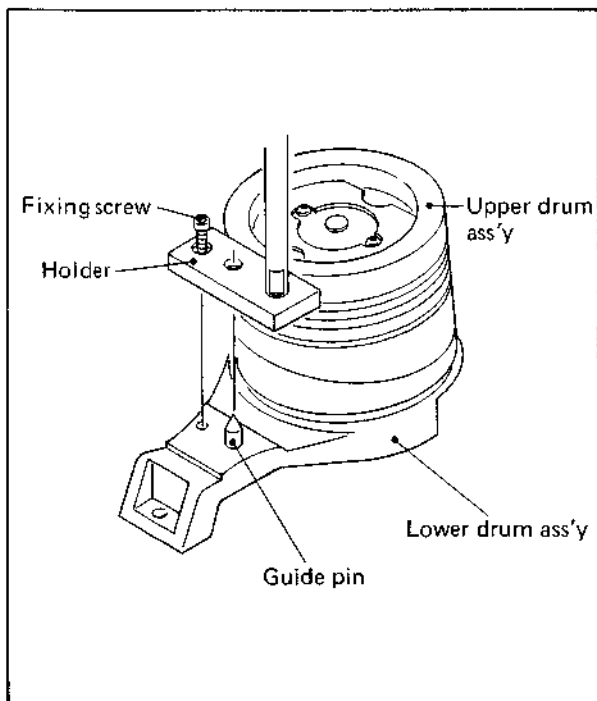

Fig. 4-26
- 4) While observing the above cautions, set the micro checker on the lower drum guide pin as shown in Fig. 4-26. Use the accessory hex wrench (metric) to tighten the fixing screw.